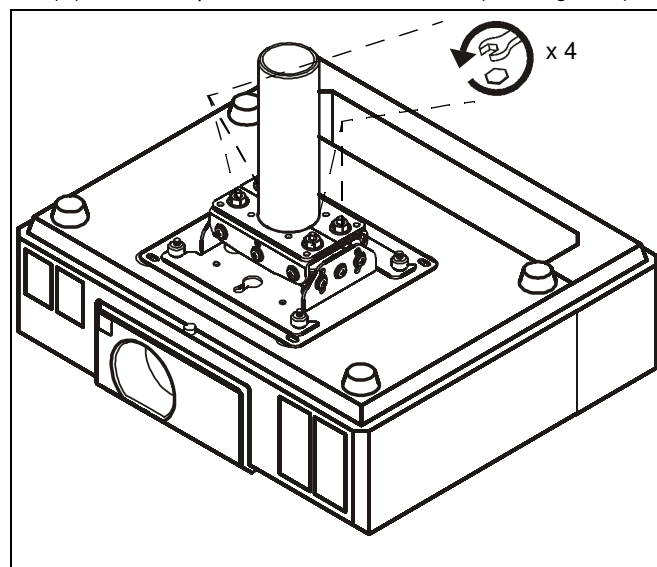

Figure 7
1. Remove the four 1/4" flat washers (K) and four 1/4" hex nuts (P) from on top of the RPA/RPM mount. (See Figure 7)